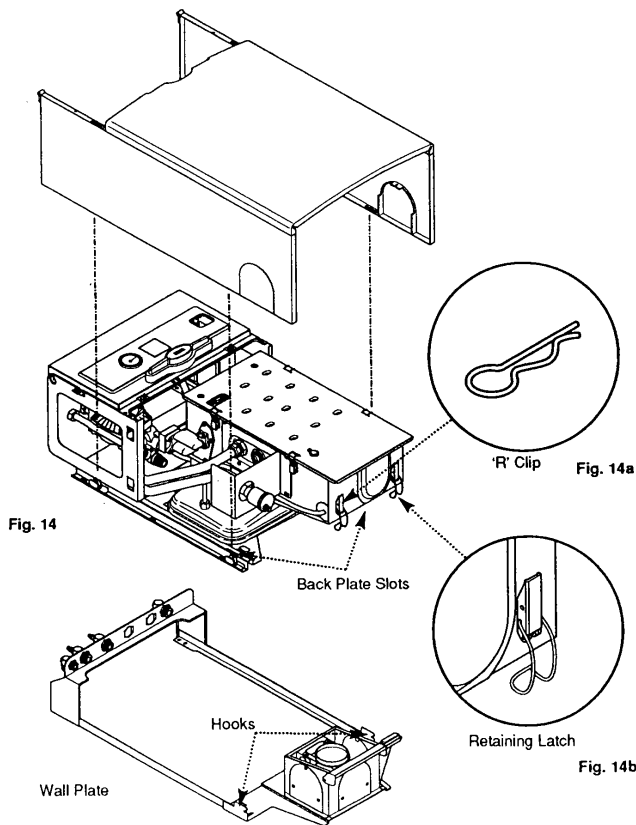

Fig. 14
5. Lift and remove the combustion box and backplate from the wall plate (Fig. 14). Place the combustion box and backplate on its back.